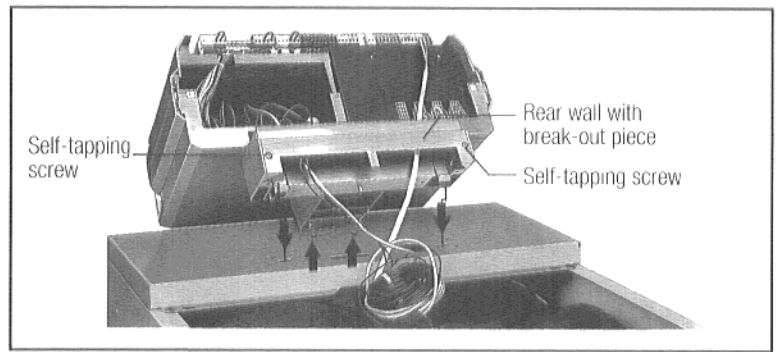

Fig. 3 – Procedure
Remove the break-out piece in the rear wall of the cable channel in the Control Panel (Figs. 3 and 4).
1. Remove the two self-tapping screws from the terminal cover and take off the cover (Fig. 3+7).
3. Position the Control Panel so that the hooks can slip into the oval slots. Pull the Control Panel forwards and then tilt it backwards until the two elastic hooks on each side snap into place (Fig. 3).
7. Attach the terminal cover to the upper section of the Control Panel using two self-tapping screws. Attach the rear wall of the cable channel to the base of the unit in the same manner (Fig. 3 and 7).